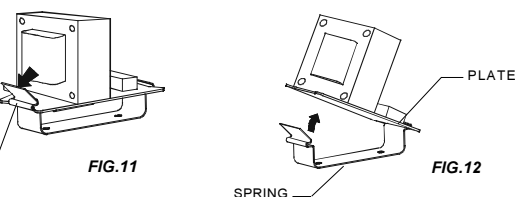

FIG. 10
2. Use the screws to adjust the housing height. *Note: Ensure that the housing is level with the ceiling.* (Fig.10)
3. Tighten the screws when completed. (Fig.10)
1. Remove the housing and the two screws located inside. (Fig.10)
5. Replace the housing into position. (Fig.10)